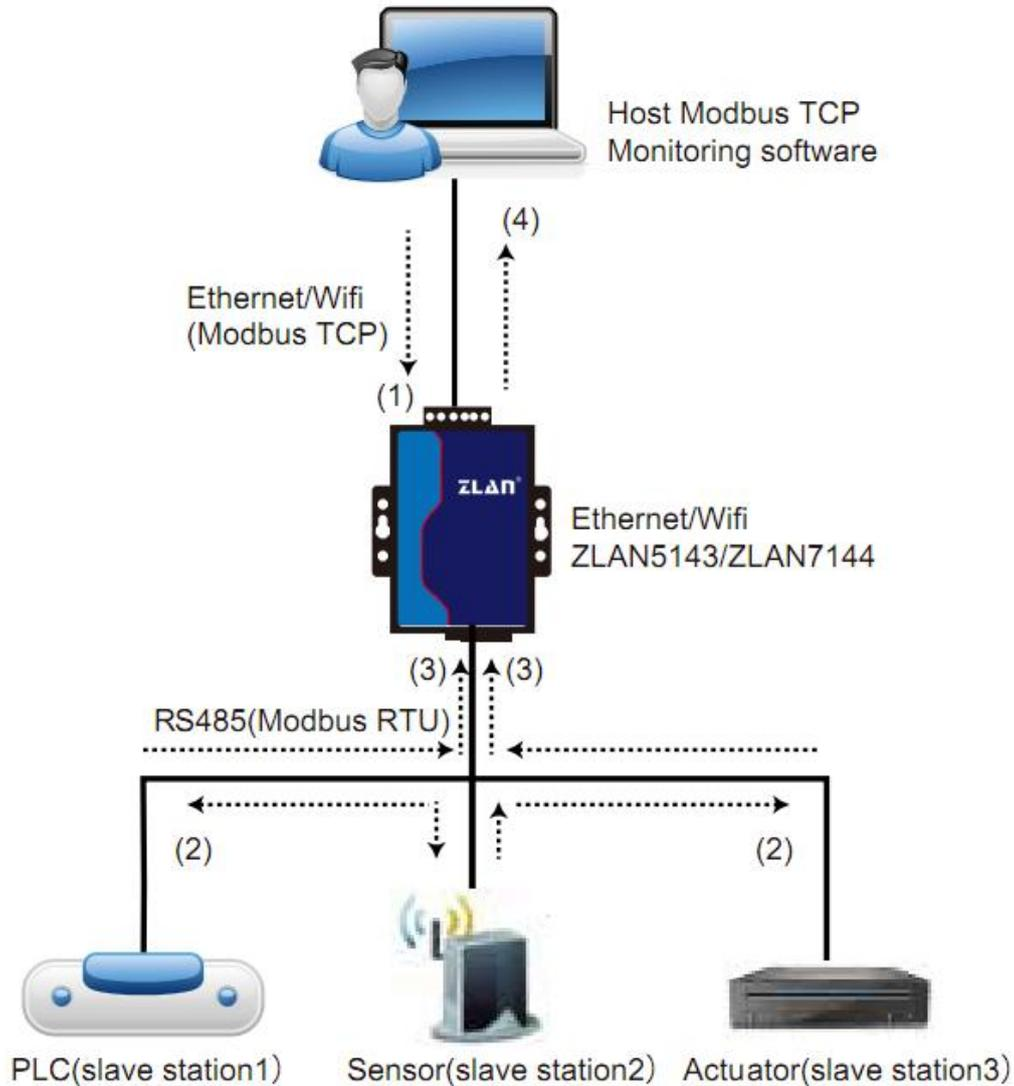

Figure 34 Storage Modbus Gateway
As shown in figure 34: ordinary Modbus TCP data flow direction (1) → (2) → (3) → (4). In other words, Modbus TCP instruction is first converted into corresponding Modbus RTU instruction, and then the device responds Modbus RTU instruction to Modbus gateway, which is then converted into Modbus TCP again and sent to the monitoring host computer.